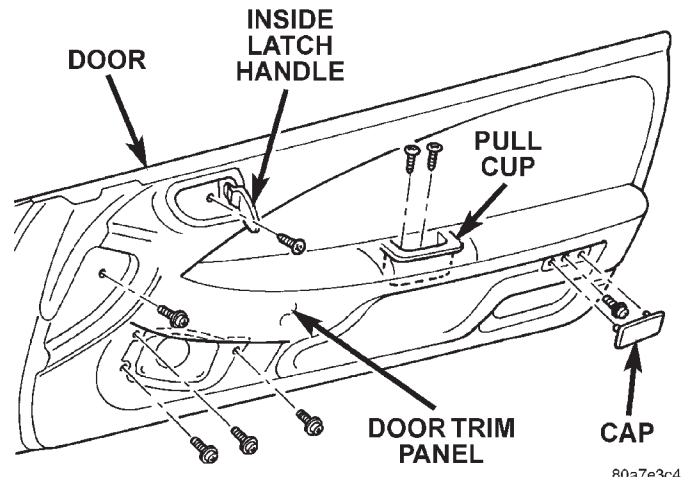

Fig. 22 Door Trim Panel Screws
- (1) Roll door glass down.
- (2) Disengage clips holding speaker grille to door trim panel.
- (3) Remove screws holding door trim panel to door (Fig. 22).